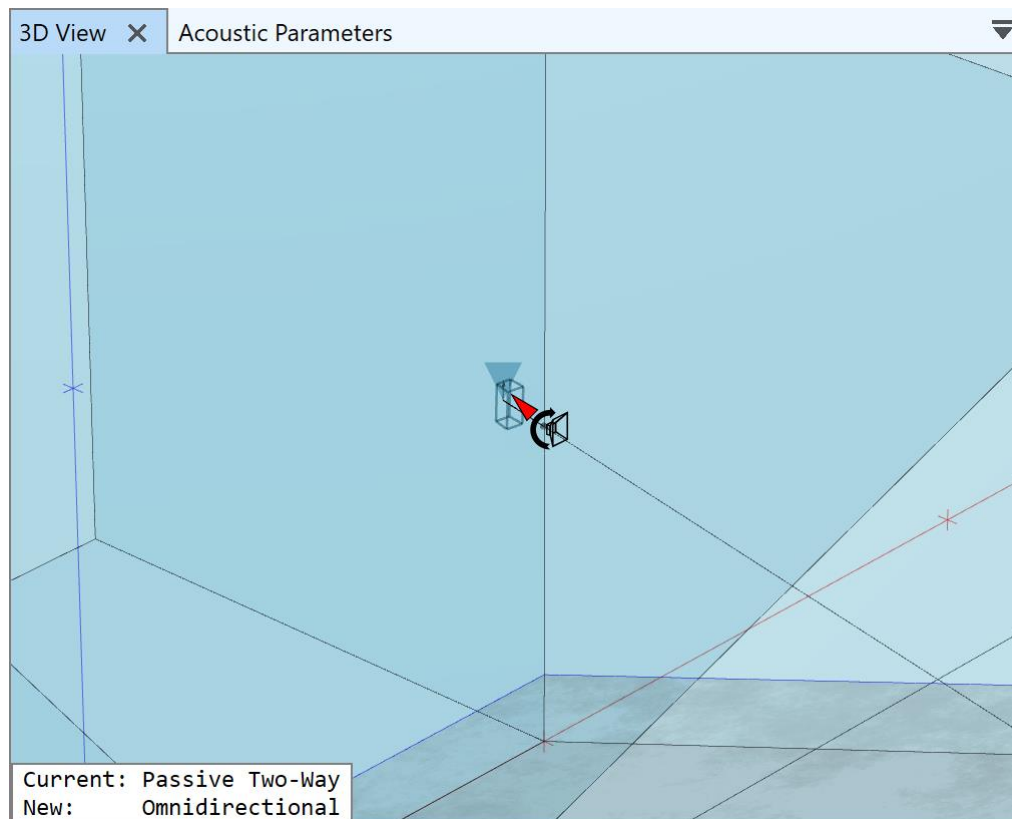

Figure 8.7 Replacing the speaker model of a loudspeaker. The status text shows the current speaker model and the new one.
1. Assuming that no loudspeakers are selected, choose a new speaker model from the search list or tiles display. This will activate a mouse mode and the mouse cursor will change to the  symbol accordingly to indicate the mode. When in this mode, hovering over a loudspeaker in the room model will show its current speaker model as well as the potentially new one in the status text (Figure 8.7). Left-clicking on the loudspeaker will replace the speaker model. The mode remains activated to allow switching several loudspeakers in a row.